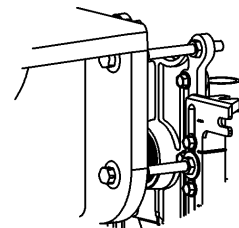

Figure 19
19. Assemble a fiber washer and cap nut onto each rod and hand tighten. Secure closet with an additional half-turn using a wrench on each nut to complete the installation. See **Figure 19**.